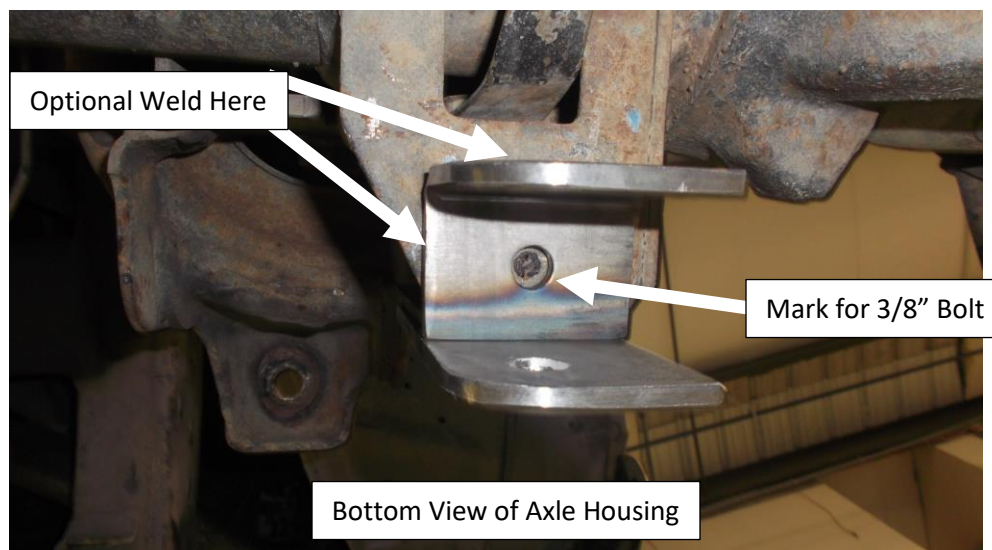

Figure 8. Location to Drill 3/8” Hole or Weld Area for 8568-13 Bracket
9. The bracket can be welded or bolted on. If welding the bracket on, take note of the areas that need to be cleaned up for welding. If bolting the bracket on, mark the location of the bottom 3/8” bolt. See **Figure 8**.